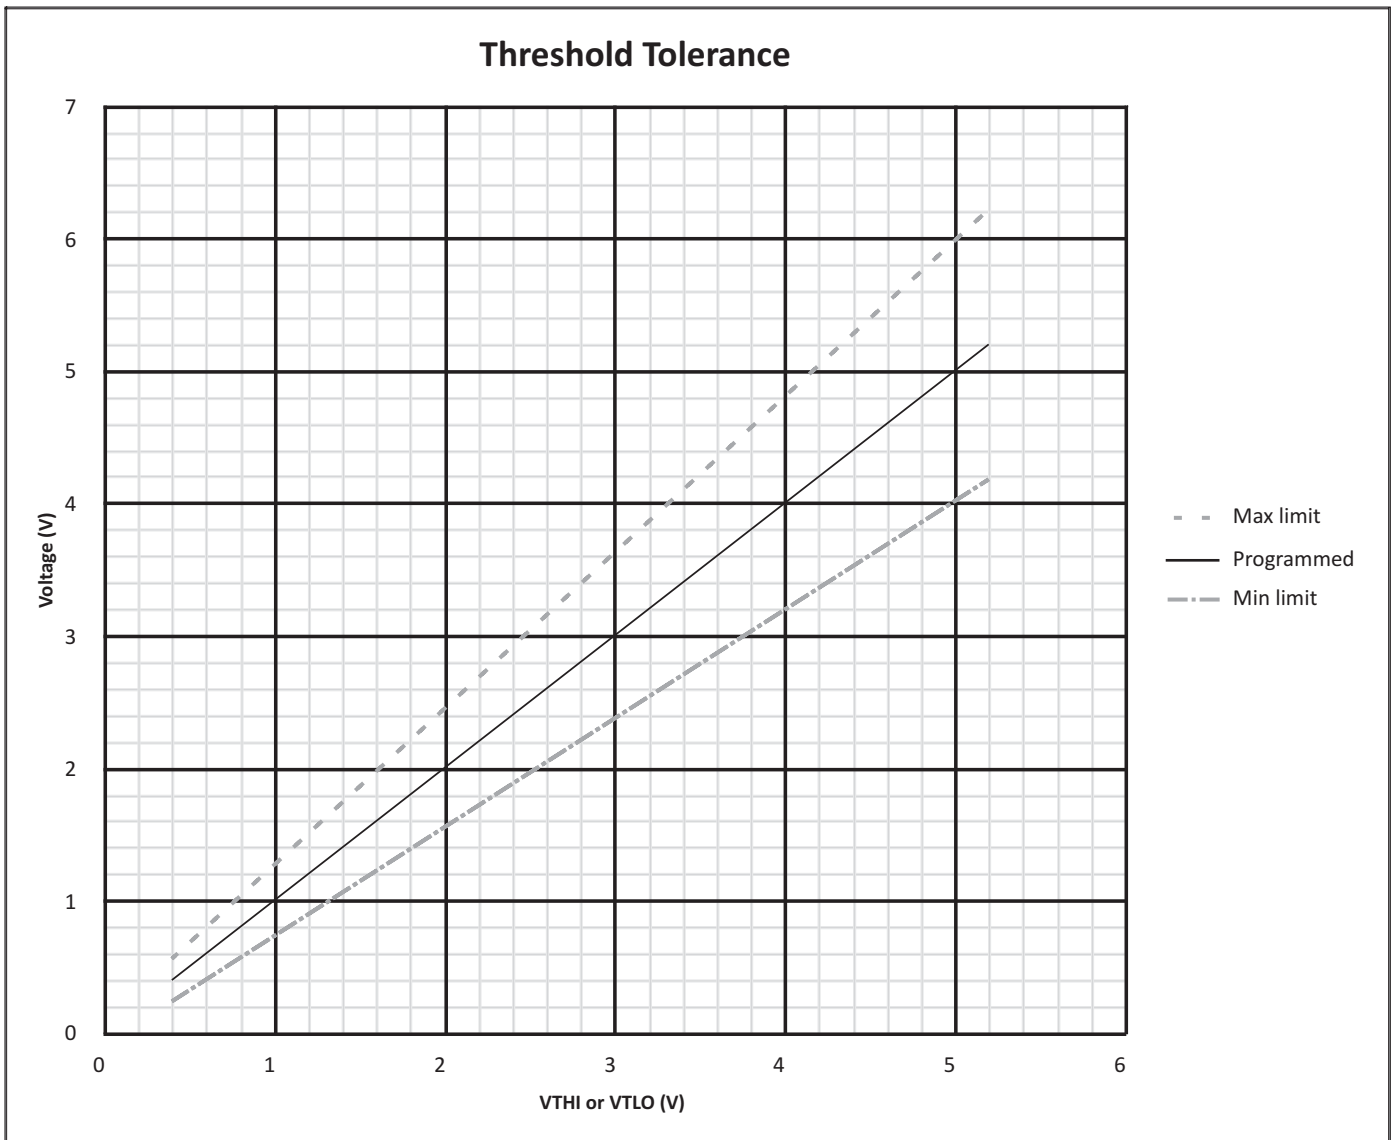

Figure 11: Threshold tolerance over Programmed value
*: See Figure 11 for guaranteed tolerance for programmed VTHI and VTLO